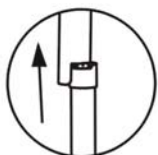
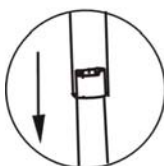

Figure a-1
Figure a-2
- 3) When you want to put the treadmill to the work position, please lift the end of main frame (end cap) a little to make the foldaway support tube higher than the cylinder cover (see figure a-1), tip the foldaway support tube with your foot slightly (see figure a-2), press the end of main frame (end cap) forcibly, remove your foot and keep on pressing the end of main frame for a while. The cylinder will shrink under the weight of itself (see figure b) and the main frame goes flat.